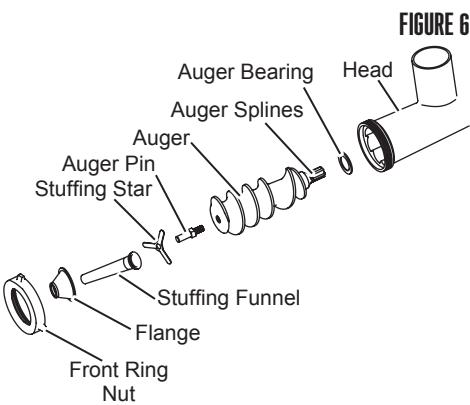

FIGURE 6
3. Insert the Auger, with the Auger Bearing attached, into the Head (**FIGURE 6**). Align the Auger Splines with the Drive Shaft of the Grinder. **NOTE:** Periodically inspect the Auger Bearing for wear. If the Auger Bearing has excessive wear, replace it to prevent head damage.